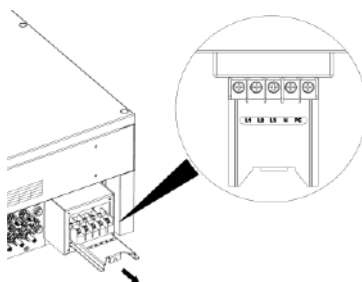

Figure 4.19 Pull out the rail
- (4) Pull out the AC terminal rail as shown in Figure 4.19.